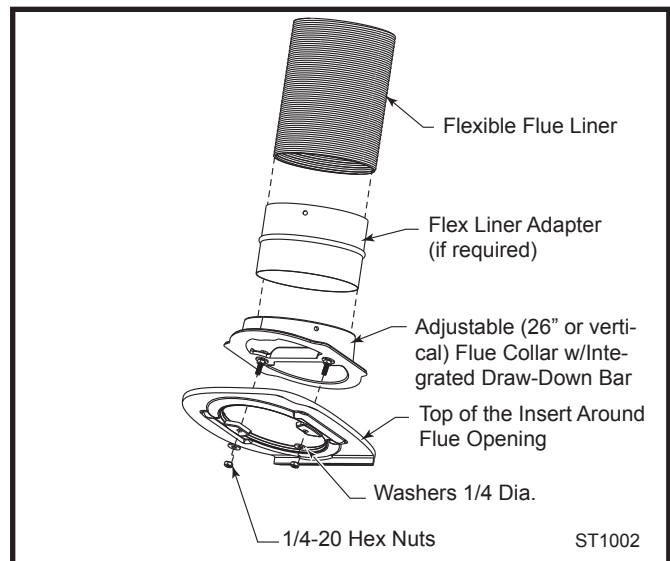

Fig. 6 Components of the venting system.
- 3. Install the venting system:** Again, depending on your application it may be easiest to install the connector or stainless steel flue liner in the chimney first. Refer to Figure 6 for the components of the venting system.